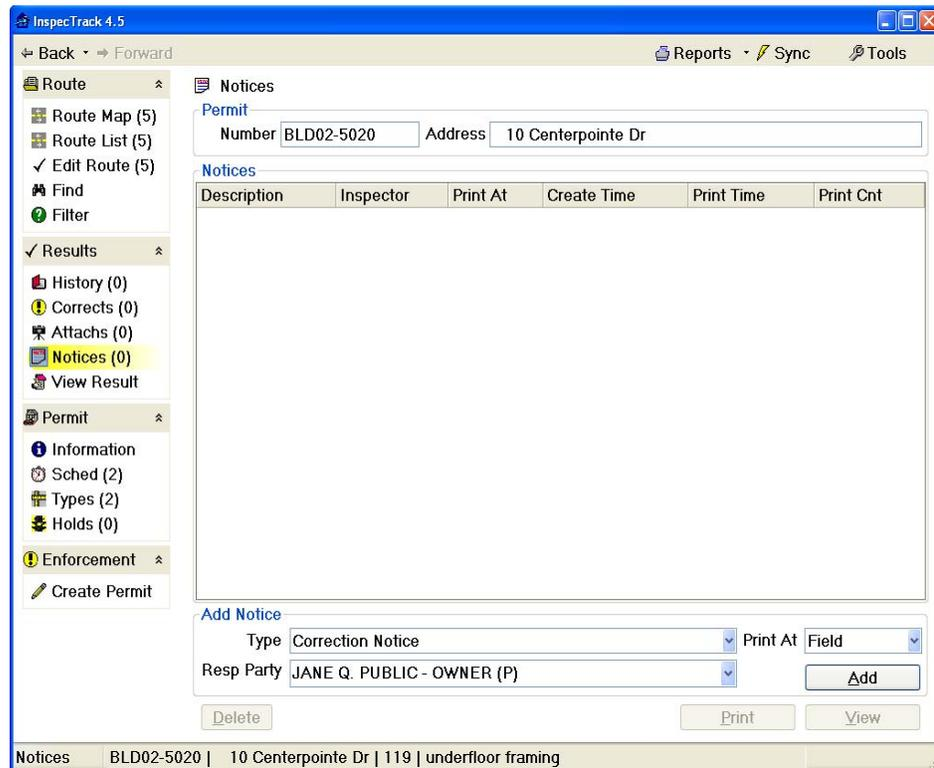

Figure 4-18 Notices view
1. Select a permit from the Route List view, click on the **Notices** task item to switch to the Notices view (Figure 4-18).